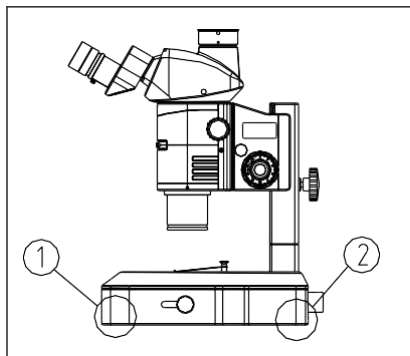

Fig. 1
3. When moving the microscope, use both hands to hold the position ① and ② of the microscope. (See Fig. 1)